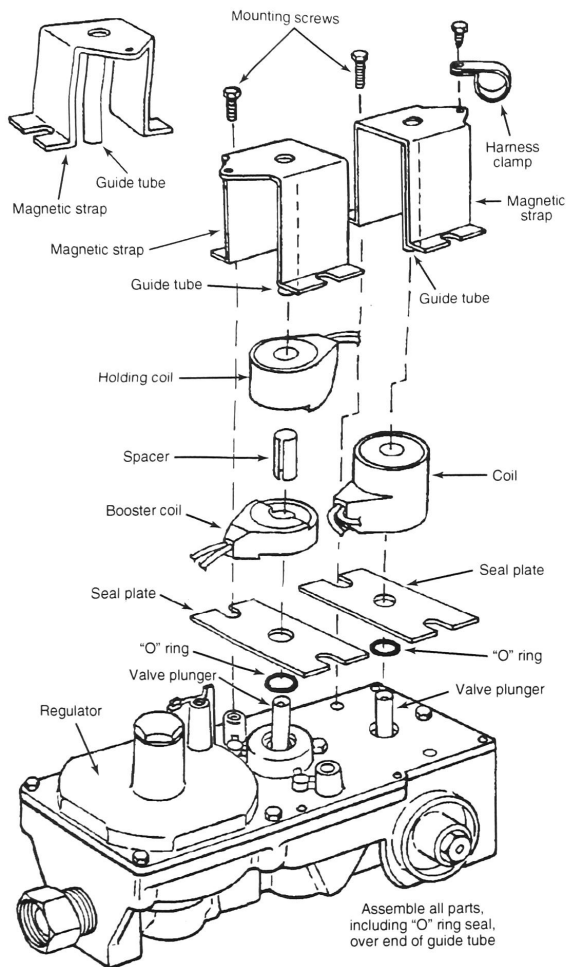

Figure 1
1. Remove the two mounting screws that hold the magnetic strap to the gas valve (see figure 1).
4. Discard the old "O" ring when installing the new coil on the gas valve as shown in Figure 1. Make sure that the new "O" ring is seated properly in the valve body. Only one "O" ring is needed on the guide tube.